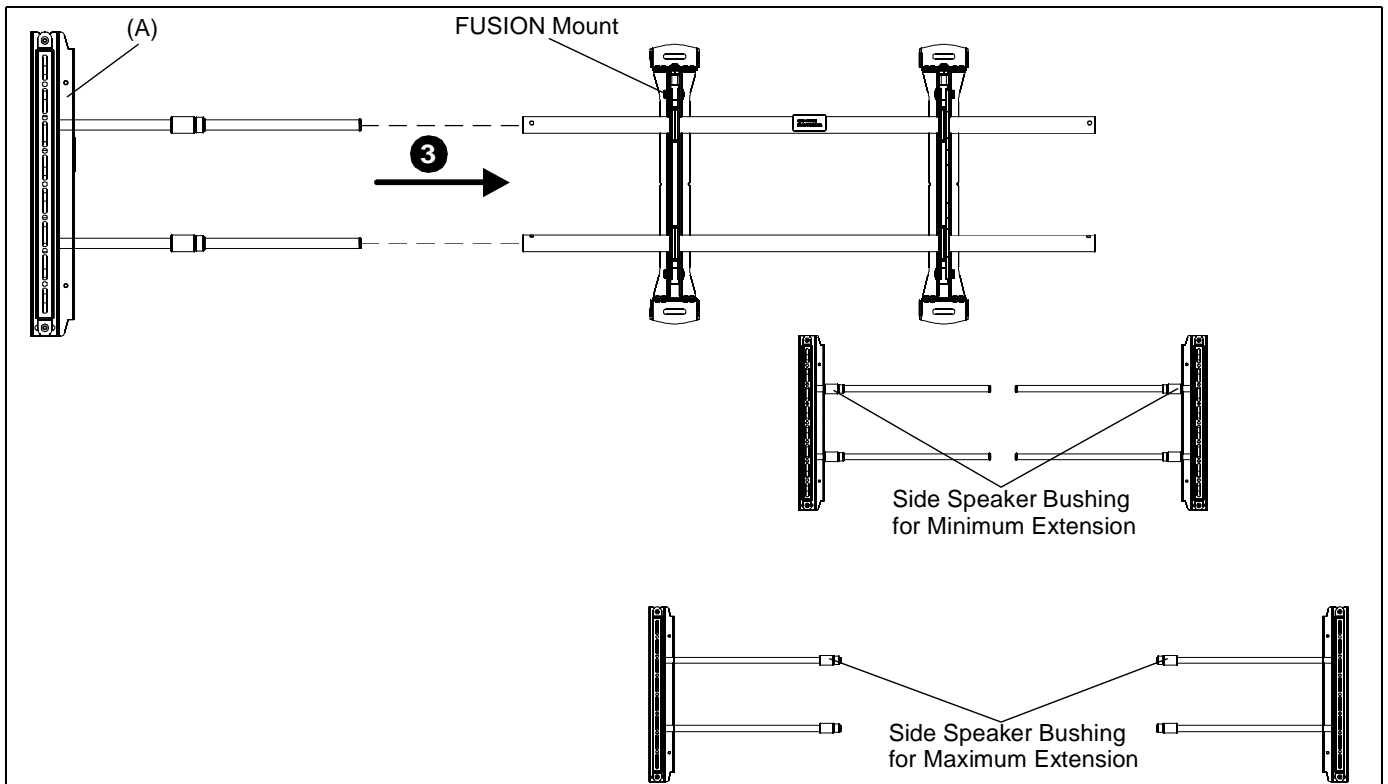

Figure 3
3. Slide FLR100 into wall mount rails. (See Figure 3)
4. Tighten the side speaker bushings into the wall mount rails. (See Figure 3)